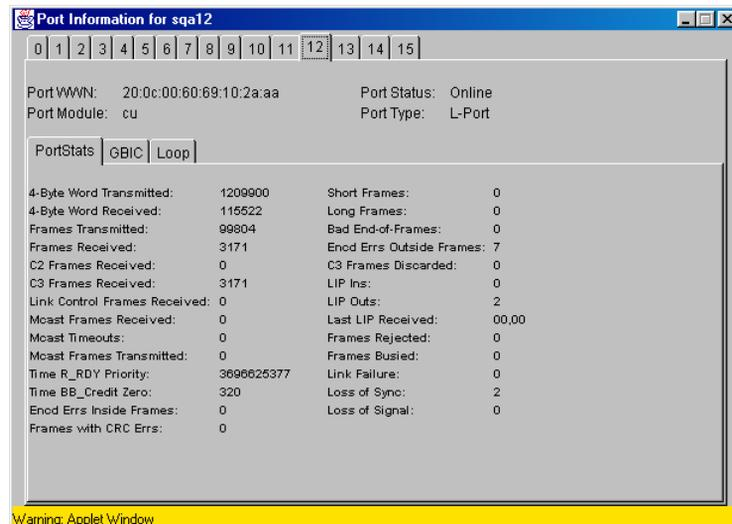

Figure 3-14 Port Information View
4. Click a **Port** icon. The Port Information View (Figure 3-14) displays.